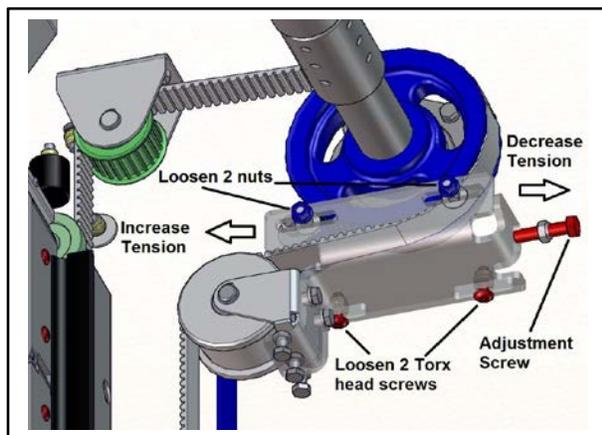
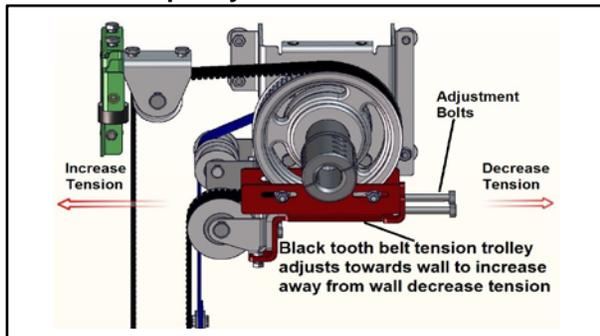

Figure 45
Figure 46
- The trolley is secured with two Torx head screws on the bottom and two nuts on the side of the console. A bolt pushes the trolley towards the wall. The face of the console can be removed to provide greater access to trolley. (See Figure 45.)
3. Belt tension should just be snug. It is adjusted by repositioning the trolley at the top of the side column in S – Size doors. The trolley at the top of the side column increases tension as the trolley is moved towards the wall and decreases the tension when moved away from the wall. The face of the console can be removed to provide greater access to trolley.(See Figure 46.)
5. Performing the panel adjustment is similar for the L & S size doors. To see the difference in trolleys see figure 45 (L-size) page 20 and figure 46 (S-size) page 21. On the side that is high release the tension by adjusting the trolley at the top of the side column. (See Figure 50.)